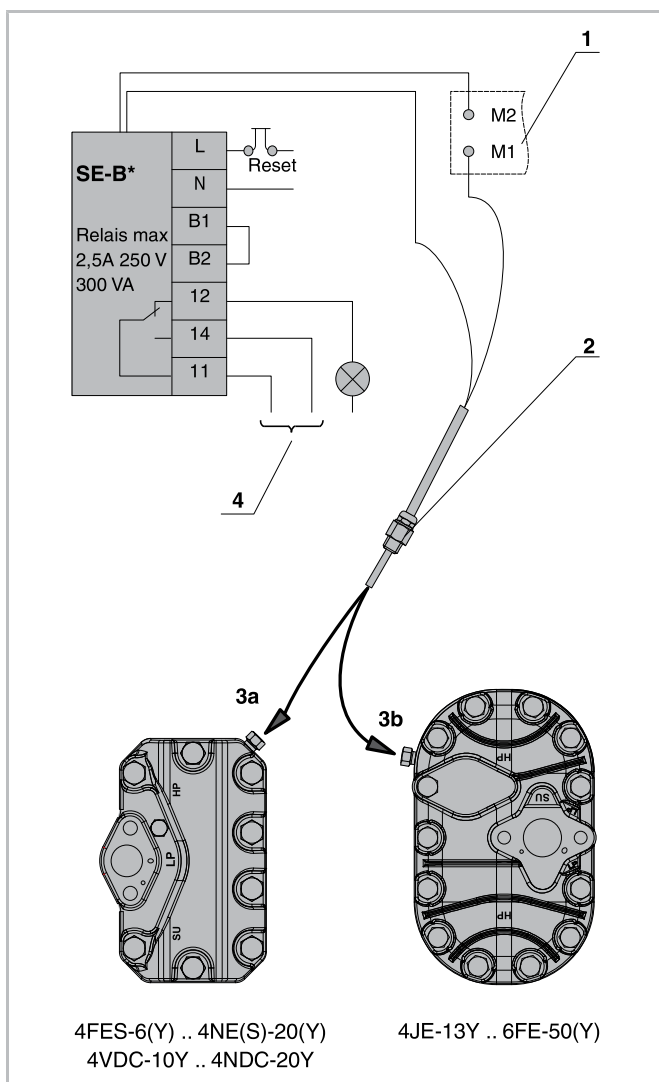

Fig. 22: Discharge temperature sensor for start unloading
The sensor must be incorporated in the start unloading cylinder head (see figure 22, page 21).
- Connect the instrument leads in series to the motor temperature sensors (see adhesive label in terminal box) and see figure 22, page 21).